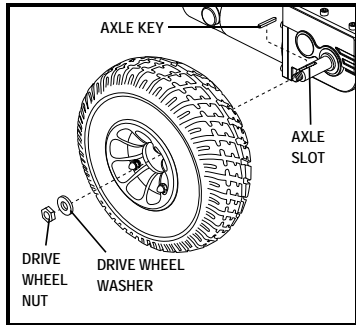

Figure 26. Quantum 610 Drive Wheel
4. Remove the drive wheel nut and washer from the axle. **See figure 26.**